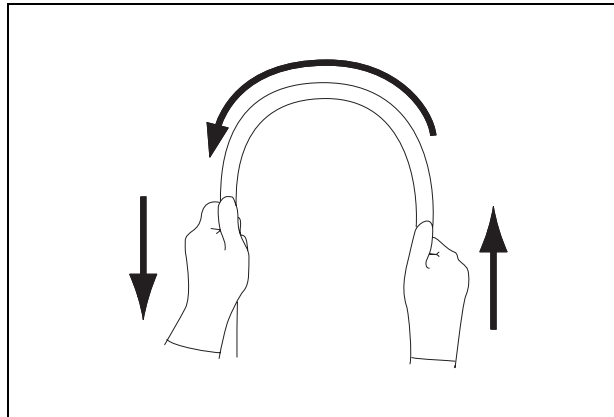

Figure 3.3
5. Using both hands, bend the insertion tube of the endoscope into a semicircle. Then, moving your hands as shown by the arrows in Figure 3.3, confirm that the entire insertion tube can be smoothly bent to form a semicircle and that the insertion tube is pliable. When inspecting endoscopes with flexibility adjustment, perform the test with the insertion tube at both its most-flexible and most-rigid settings (for endoscopes with flexibility adjustment only).